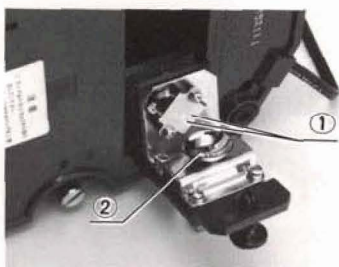
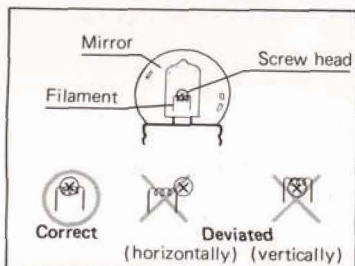

Fig. 6
Fig. 7
- 2) Insert the contact pins fully into the socket ①. (Fig. 6)
- ★ Take care not to smudge the mirror surface ② with fingerprints, etc. If smudged, the mirror should be wiped clean with cotton gauze slightly moistened with a 3:7 mixture of alcohol and ether.
- 3) Looking at the bulb from the front, confirm that the filament image covers the lower half of the screw head on the mirror surface. (Fig. 7)